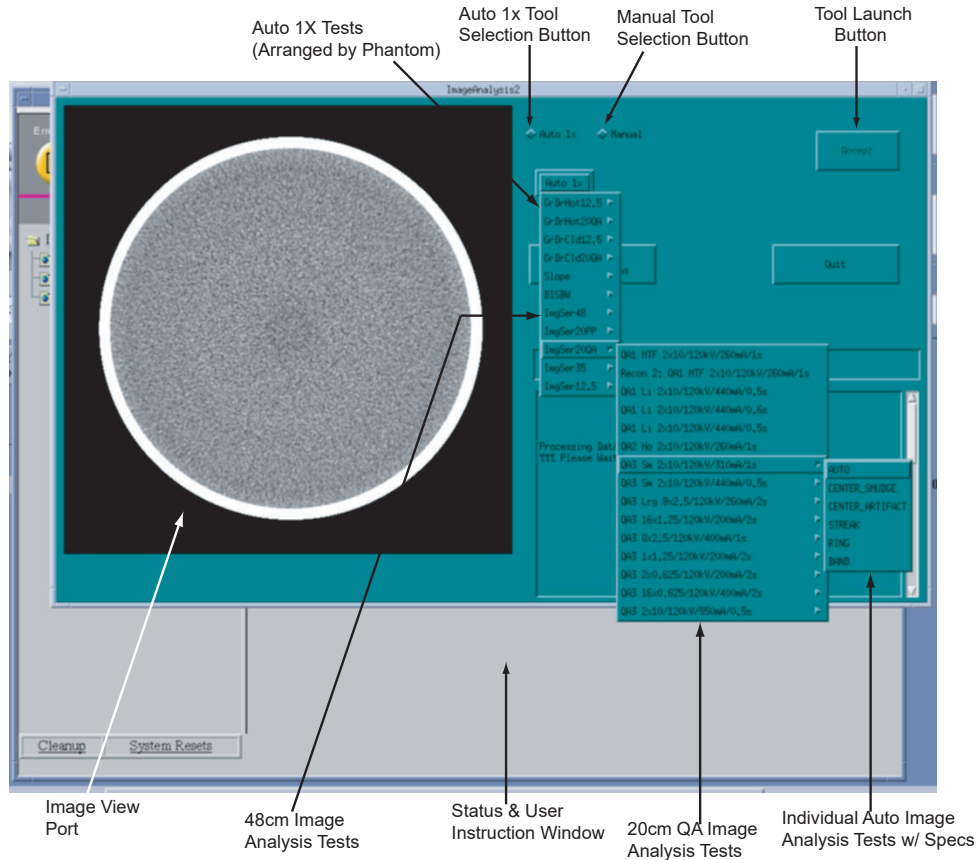

Figure 6-9 Image Analysis Tool User Interface - Auto 1x Test Pull Down Menu
- b.) On the Image Analysis Tool window, click on the AUTO 1X diamond shaped button. (See Figure 6-9, on page 310.)